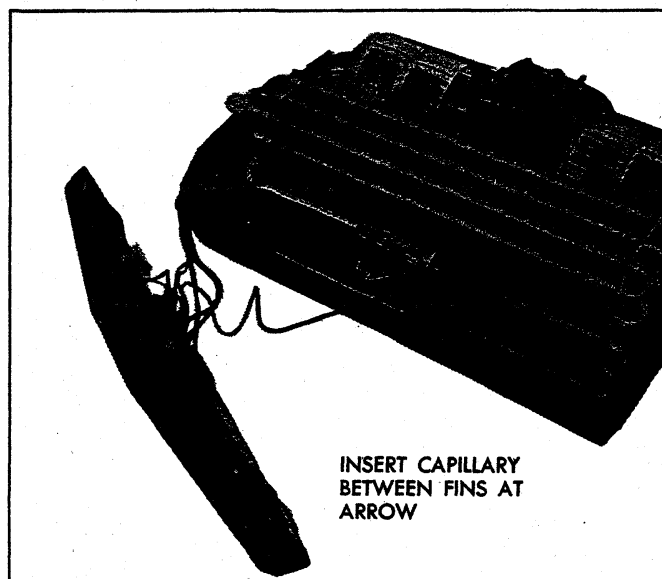

Fig. 84—Thermostatic Switch Capillary Installation
4. Disengage the plastic plug attaching the thermostatic switch capillary tubing to the face of the evaporator core (fig. 84).